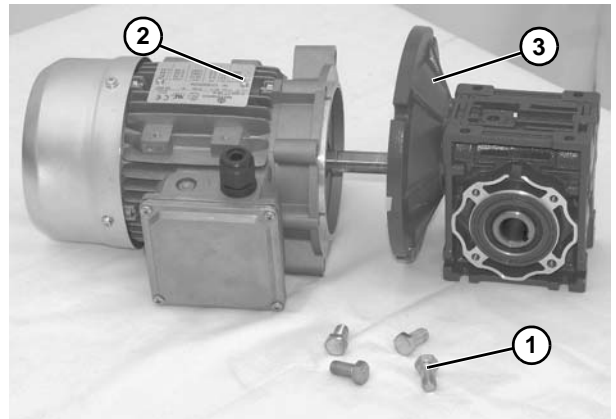

Figure 17
6. Remove four screws (**Figure 17, item 1**). Detach motor (**Figure 17, item 2**) from gear reducer (**Figure 17, item 3**). Retain motor output shaft key.